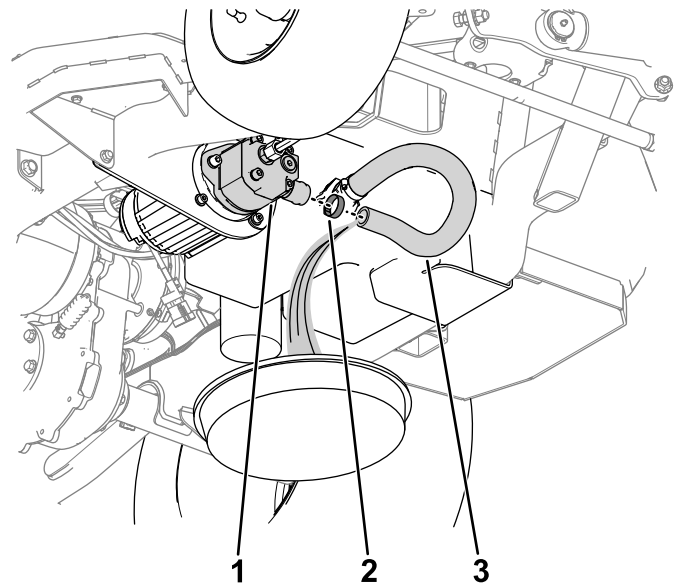

Figure 56
- A. Remove the hose and hose clamp from the pump (Figure 56).
- B. Allow the hydraulic fluid to drain from the hose into the drain pan (Figure 56).